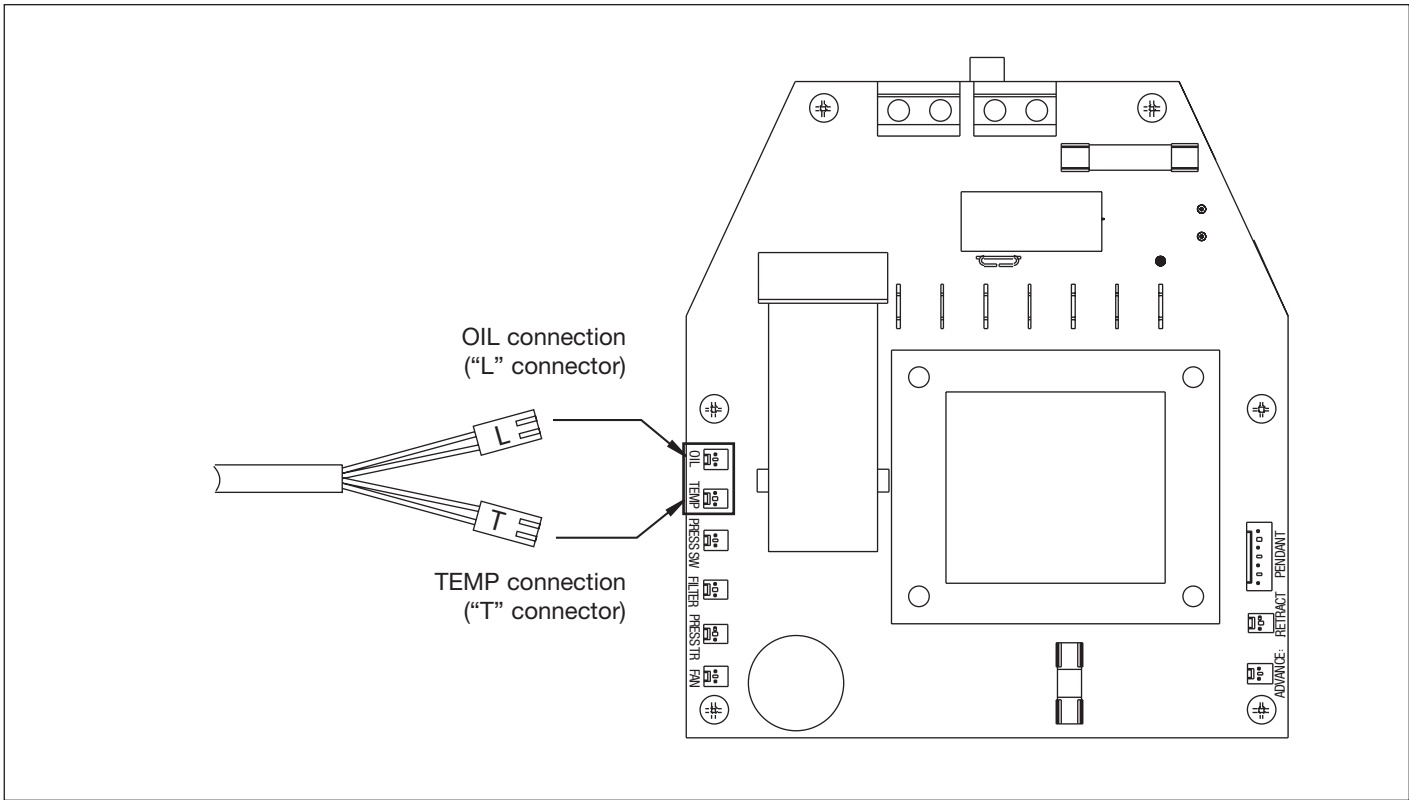

Figure 2, Power Board Connections
6. At the pump power board, remove the insulation tubes from the OIL and TEMP connections (see Fig. 2).
7. Gently plug the connector labeled "L" into the OIL connection on the power board (see Fig. 2).
8. Gently plug the connector labeled "T" into the TEMP connection on the power board (see Fig. 2).